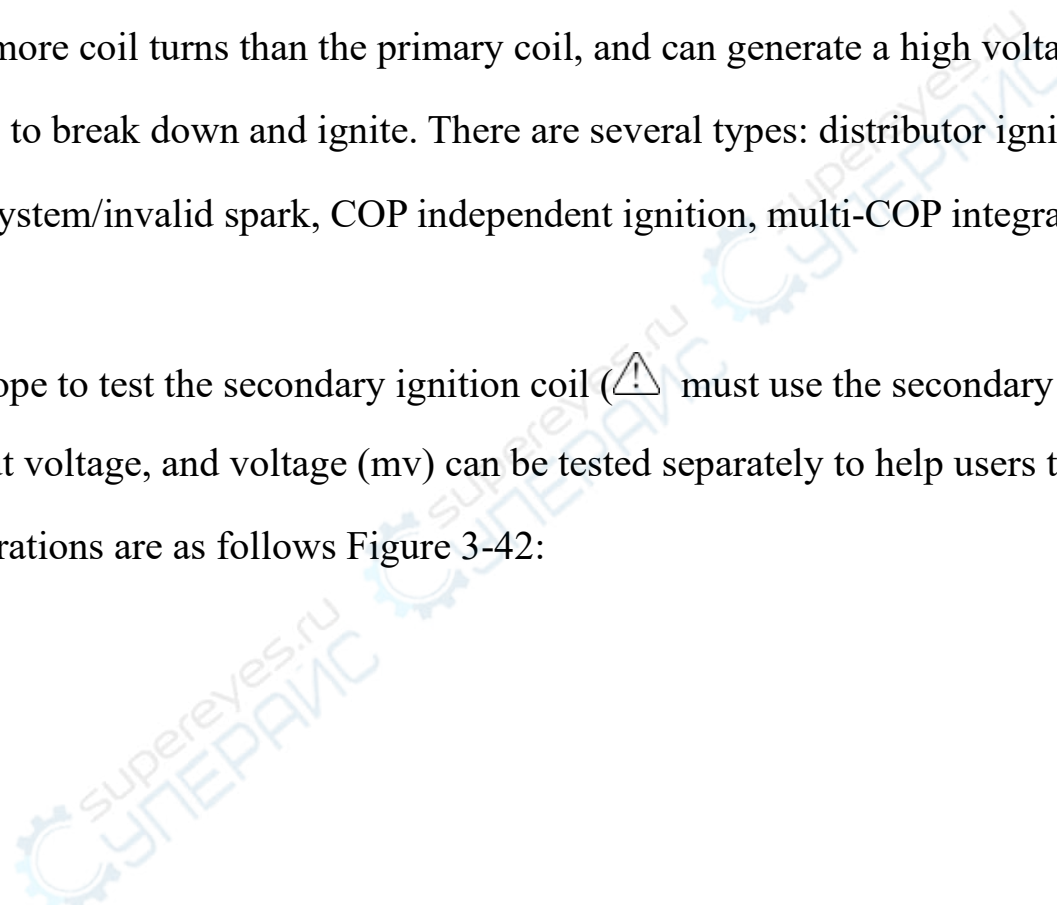

Figure 3-42 Secondary ignition test
Use the SATO oscilloscope to test the secondary ignition coil (⚠ must use the secondary ignition probe) [the voltage (KV), coil output voltage, and voltage (mv) can be tested separately to help users troubleshoot possible faults]. The specific operations are as follows Figure 3-42: